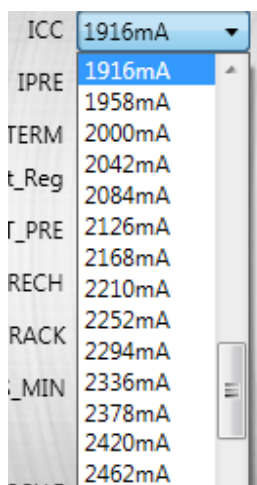

Figure 8: Setting the Constant Charger Current
- The default charge current is set at 1916mA. The actual charge current is limited at the input current limit setting (see Figure 8).